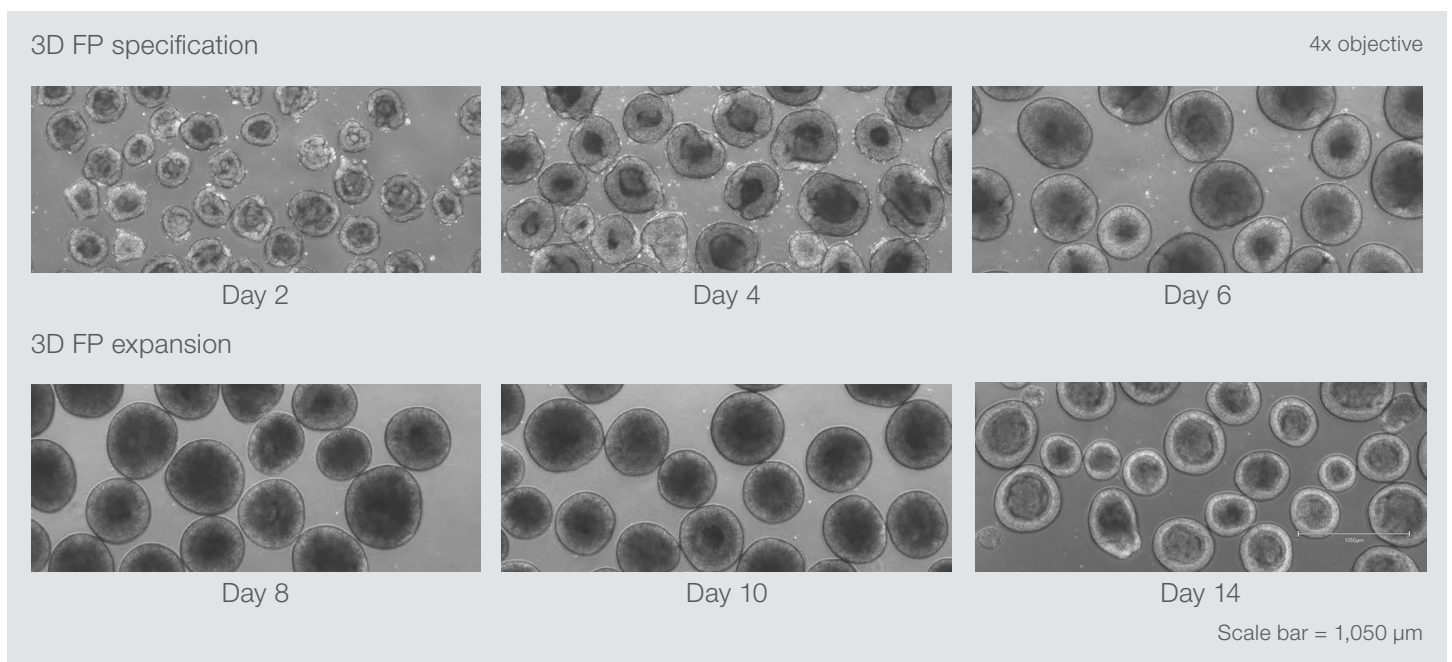

Figure 5. Expected morphology of aggregates during FP specification and expansion.
- FP specification, day 7: Cells should be appropriately specified and ready for the expansion step. See Figure 5 in the appendix for expected aggregate morphology during FP specification.
Representative results for morphology of aggregates, staining of FP markers, and DA neuron maturation are shown in Figures 5–7.